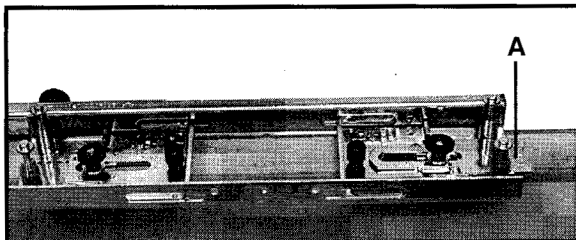

Fig. 6
7. **See Fig. 6.** Prior to attaching the last templet section on door, the remaining 5" end gage (A) may be assembled to the right end of this section in the same manner as outlined in Step 2. Templet would then be ready for use in conjunction with left-hand doors. Attach templet section to door as outlined in Step 5. Door and templet are now ready to route for hinges.